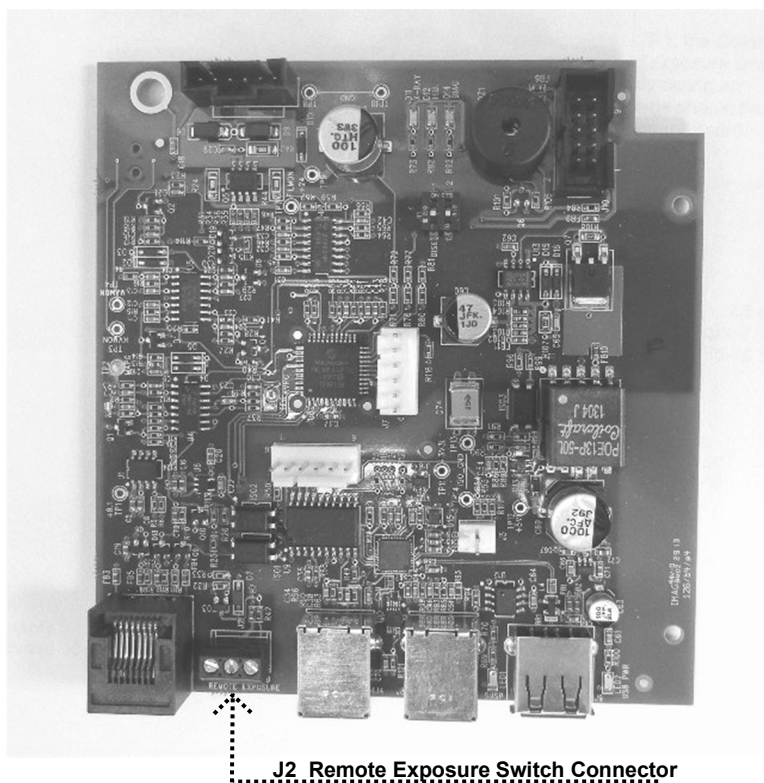

Figure 64
1. If the Operator Panel indicator does not sound, inspect the condition of any remote exposure switches. Substitution is the preferred method to test these switches, although a jumper wire can be applied across the contacts of J3, shown in *Figure 64*, on the Logic Board momentarily to simulate an exposure switch closure.